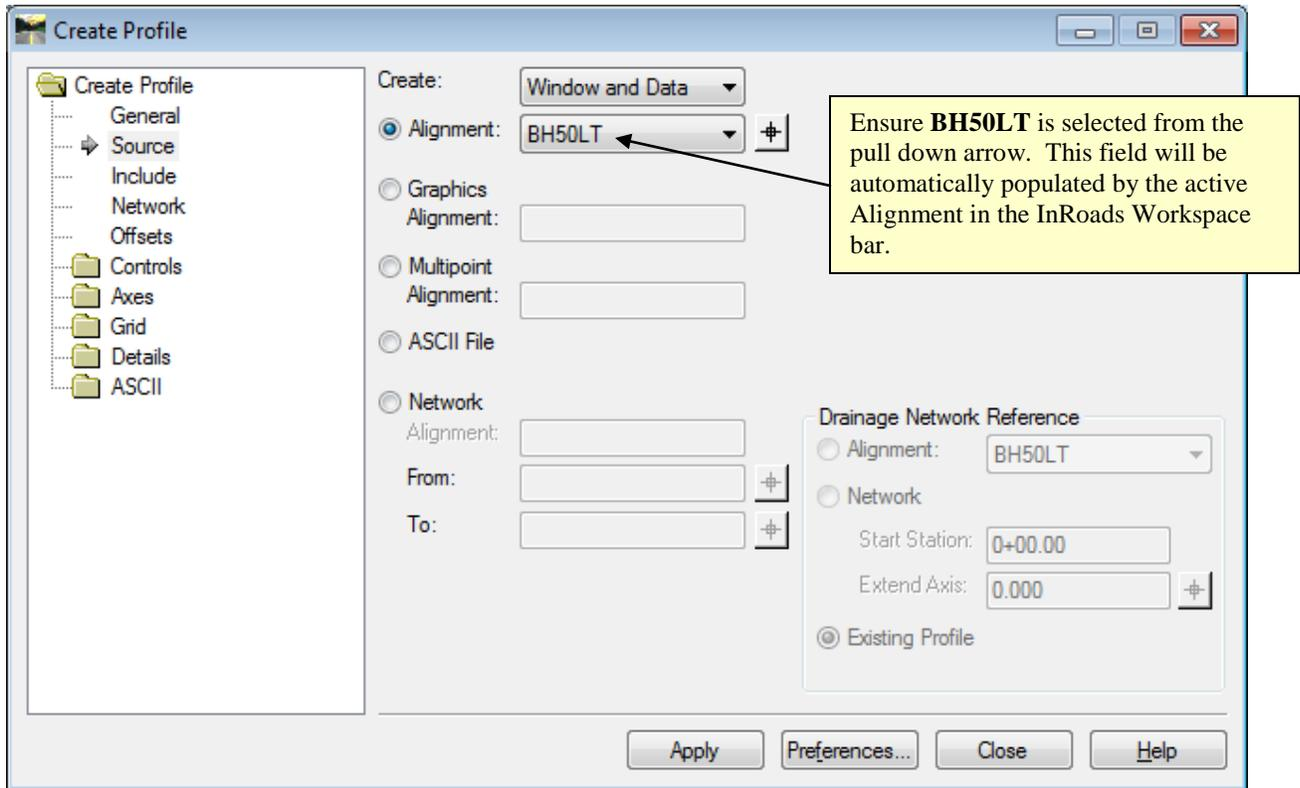

Figure L3-10 Create Profile
- In the **Create Profile** dialog, make the **Source** leaf the active leaf and match the settings shown in *Figure L3-10*.